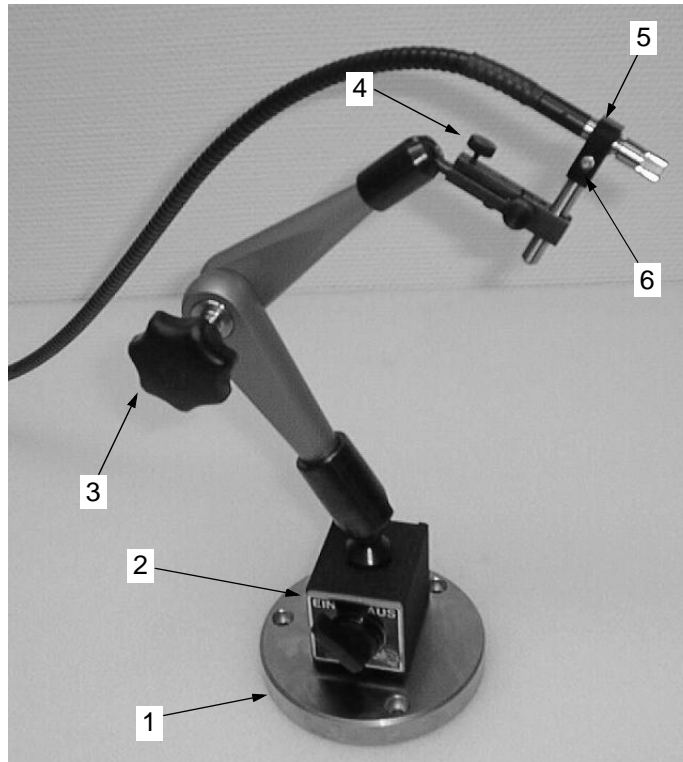
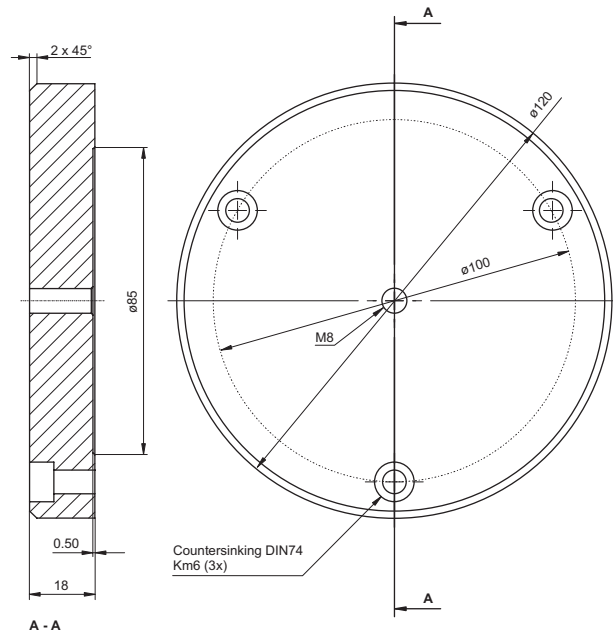

Figure B.4: Flexible arm OFV-039 for the mini sensor
Figure B.5: Base plate for the flexible arm OFV-039 (dimensions not specified are given in mm)
The flexible arm OFV-039 is a mount device for the mini sensor of the sensor head OFV-511/-512. The mini sensor can thus be easily positioned in places which are difficult to access. The heavy steel base ensures that it stands securely and if required the steel base can be screwed onto the surface beneath via the drilled mounting holes (refer to figure B.5). Alternatively, the flexible arm can be attached to any magnetic surface which is large enough using the magnetic base. The flexible arm is shown in figure B.4.
- 1 Base plate with drilled mounting holes (refer also to figure B.5)
Base plate dimensions:	refer to figure B.5